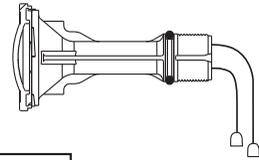

Figure 19.
1. When replacing the bulb assembly, make sure to use the correct bulb assembly unit, AquaLuminator **OR** AQL 500, see Figure 19. The bulb assemblies are **NOT** interchangeable. *Wrong bulb assembly will permanently damage light.*
11. Connect the wire connectors from the bulb assembly to the wire connectors attached to the snap-on cord cap. Make sure to use the correct bulb assembly unit, AquaLuminator **OR** AQL 500, see Figure 19. The bulb assemblies are **NOT** interchangeable. *The wrong bulb assembly will permanently damage light.*